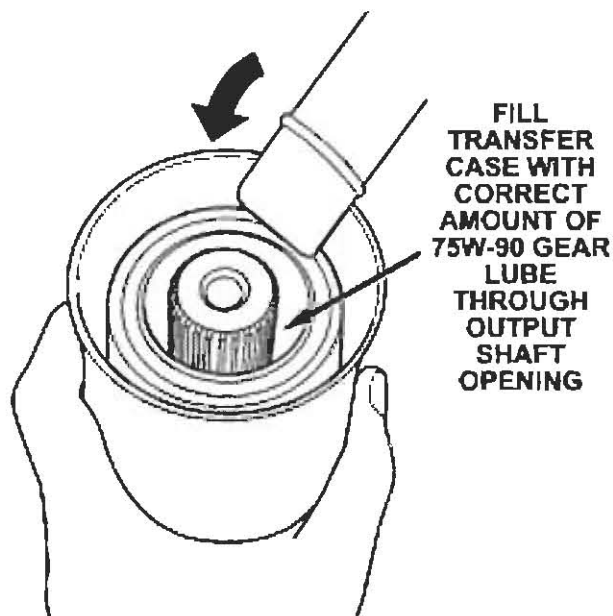

Figure 28
13. Fill the transfer case through the output shaft opening with Mopar 75W-90/GL-5 Gear Lube (Mopar P/N 05010320AA) (Figure 28).